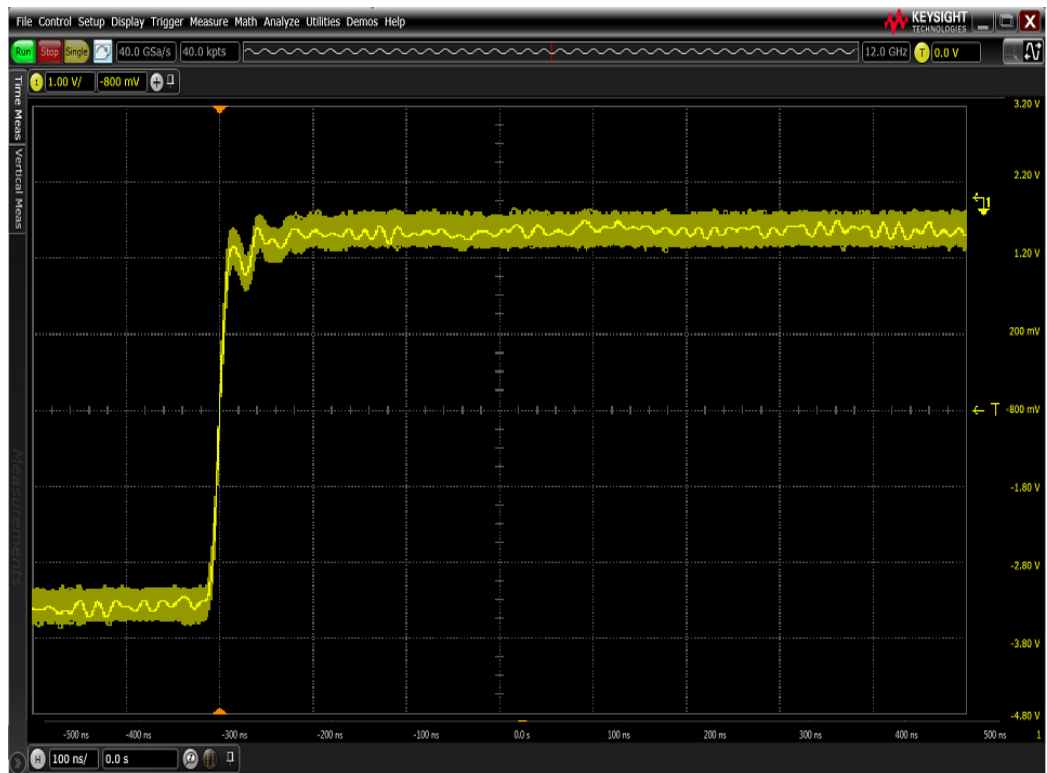

Figure 99 Example of a waveform when the probe connection is good
- 11 Set the horizontal position to approximately 3ns. A waveform similar to the one displayed in Figure 99 must appear.